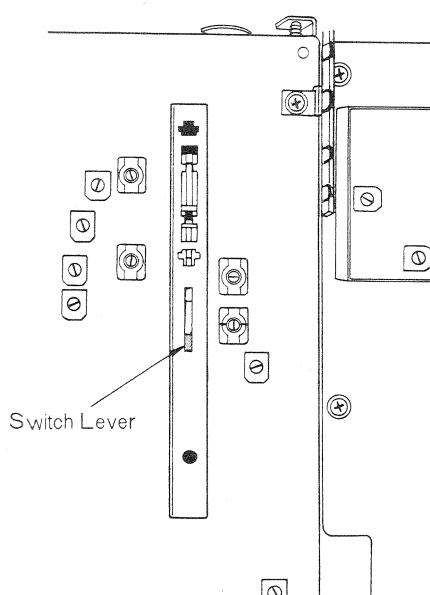

Fig. 25
3. Set the switch lever at the position, as shown in fig. 25.